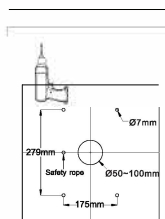

Figure 2
2. Use a drill to create fixed holes through the ceiling (Figure 2).